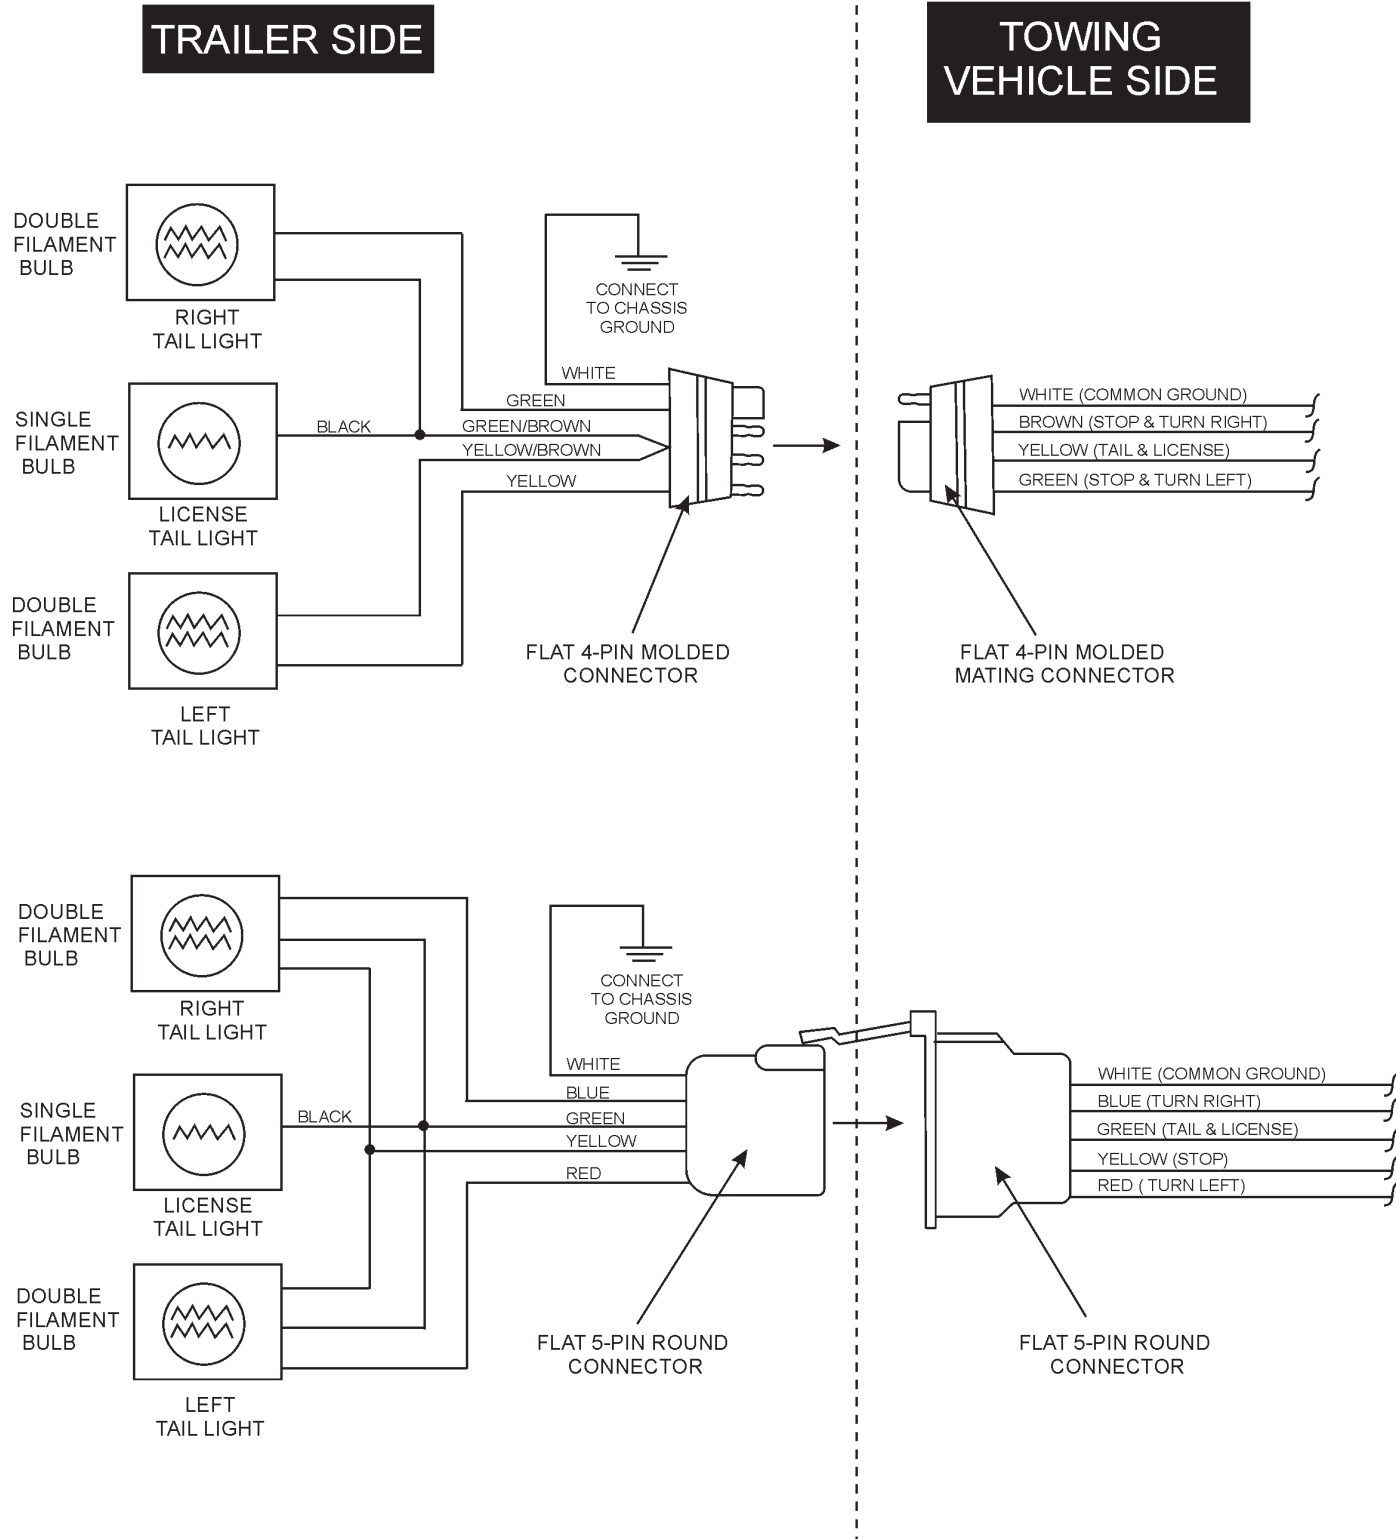

Figure 13. Typical Trailer Wiring Diagram
11. **Electrical** – Electrical connectors (looms) are provided with the trailer so that brake lights and turn signal lights can be connected to the towing vehicle. See Figure 13 for proper wiring connections.